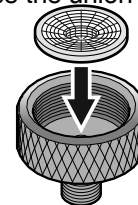

Figure 16
- Insert the water strainer supplied into the valve connector (**Figure 16**).